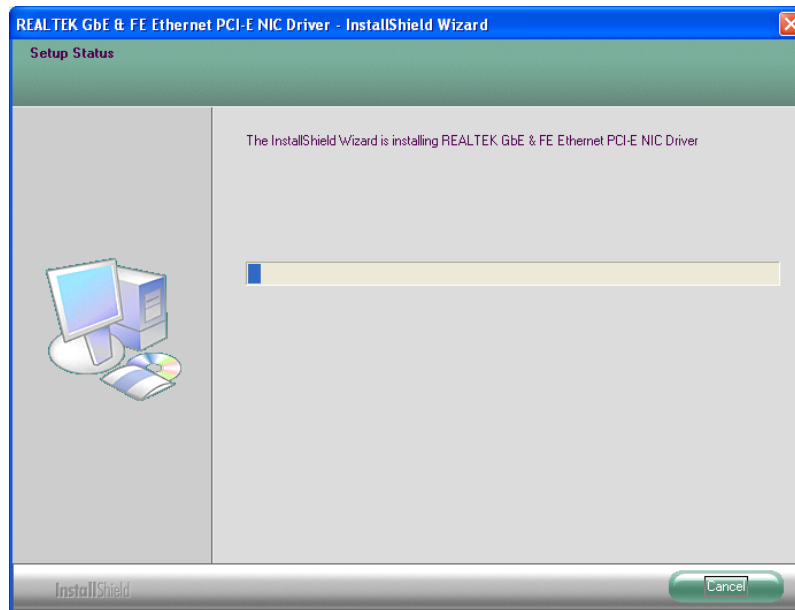

Figure 7-23: LAN Driver Installation
Step 8: The installation progress can be monitored in the progress bar shown in **Figure 7-23**.